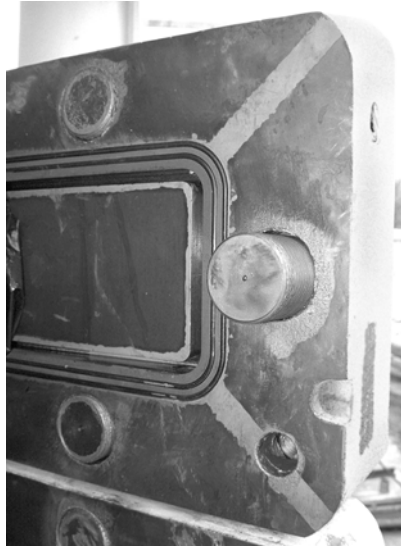

Figure 4-6. Install Door Seal Cartridge
4. The door seal cartridge is now installed in the door (see Figure 4-6).